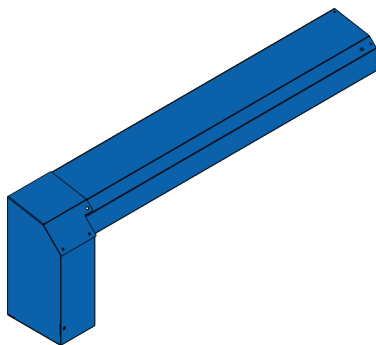

Fig. 14: Complete cover (274)
- Complete cover (274) (Fig. 14)